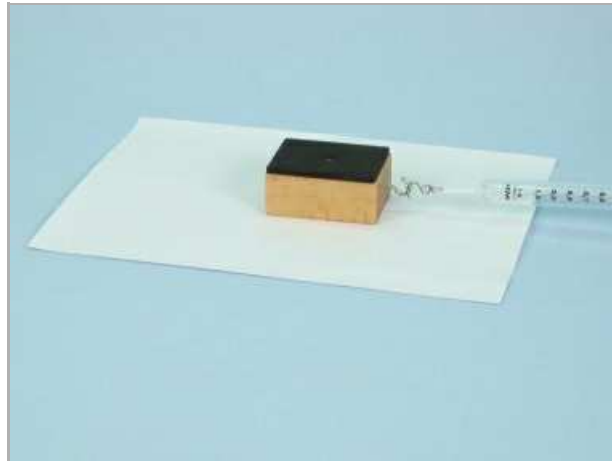

Fig. 4
- Now place the friction block on each of the three underlays (paper, wood, sandpaper), one after the other. Hook the 2 N spring balance into the block and, for each underlay, measure the force F_2 during uniform motion (Fig. 4).